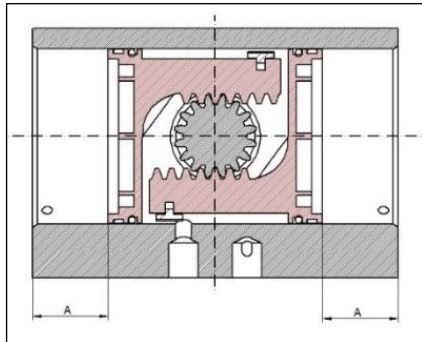

Fig No.29
- d) To ensure that the piston (03) teeth are evenly engaged, fully compress both the pistons inward and measure the distance from the edge of the body to the piston (03) face on each side, shown as dimension 'A' in fig No.29. If a different value is obtained on each side, remove the pistons and repeat from step 4.4 C).